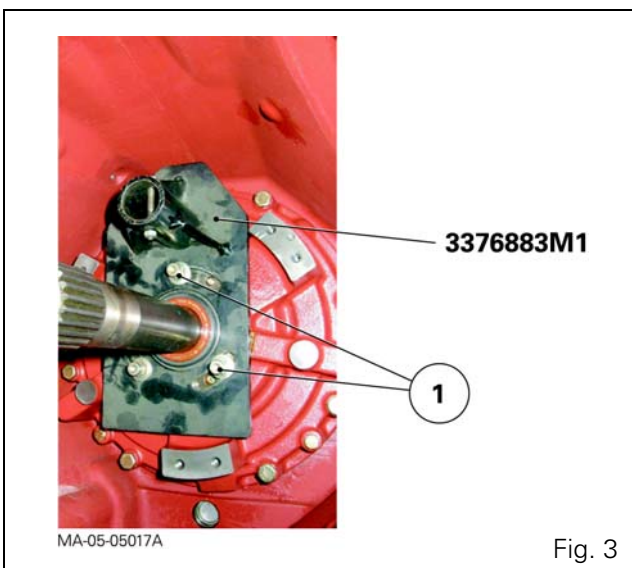

Fig. 3
7. Attach tool ref. 3376883M1 to the front cover of the input unit (Fig. 3).
IMPORTANT: To correctly attach the tool to the front cover of the input unit, use locally obtained screws (1) (Fig. 3) long enough and of suitable strength.